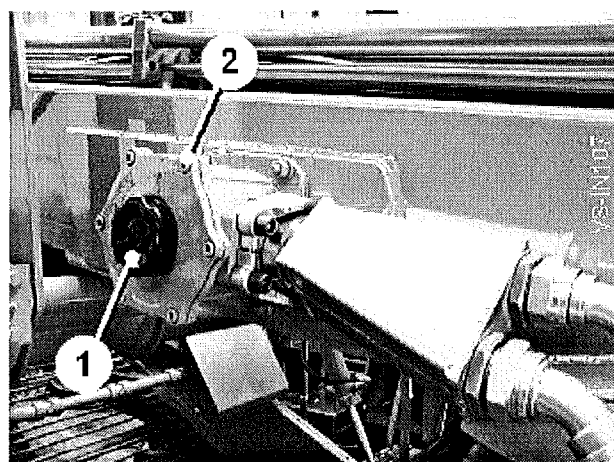

Fig 40
1. Wind the suction filter knob (item 1, figure 40) fully out anti-clockwise to close the cut off valve within the filter housing.
2. Release the screws (item 2, figure 40) holding the filter lid. A small amount of oil will be lost from the filter body.
5. Wind the suction filter knob (item 1, figure 40) fully in clockwise to open the cut off valve.